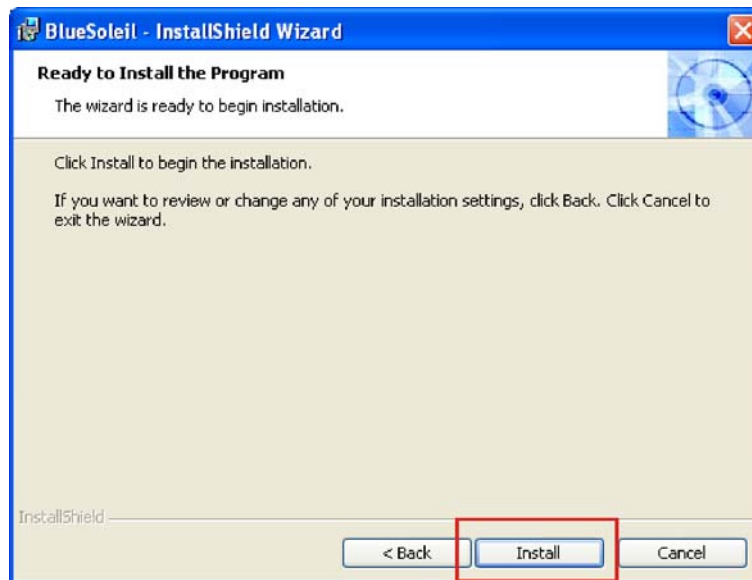

Figure 6-45: Ready to Install Bluetooth
Step 17: The **Ready to Install Program** window appears (Figure 6-45).
Step 18: Click **INSTALL** to begin installing the Bluetooth driver (Figure 6-45).